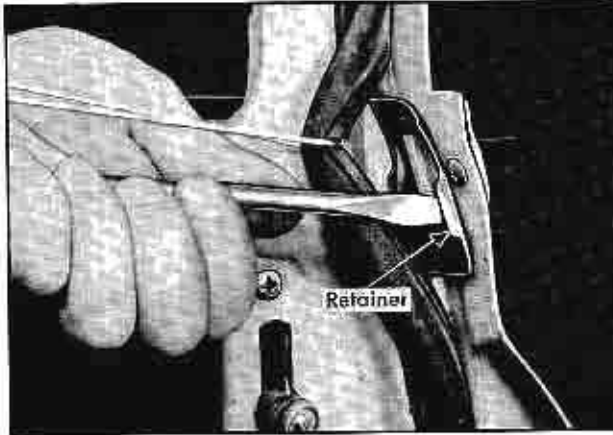

Fig. 3-22 Removing Door Lock Handle Retainer
3. With a suitable tool, pull retainer out until handle and gasket can be removed, Fig. 3-22. After the handle is removed, the retainer can also be removed by pulling it from slot in pillar facing.